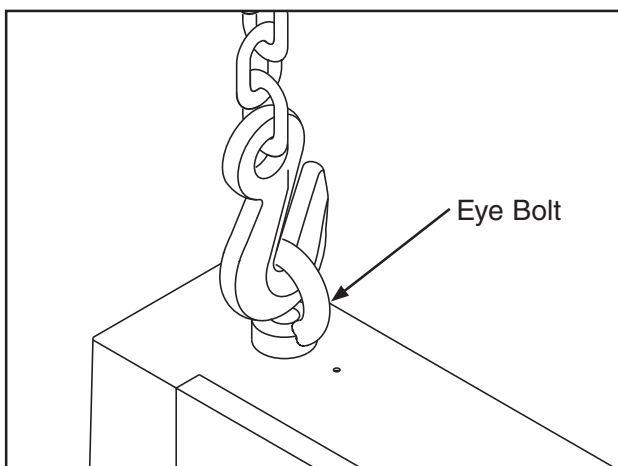

Figure 16. Lifting the bandsaw.
2. Install the eye bolt shown in **Figure 16** if it is not already installed (make sure it is threaded all the way in), then place the lifting hook through the eye bolt and lift slowly with a forklift.